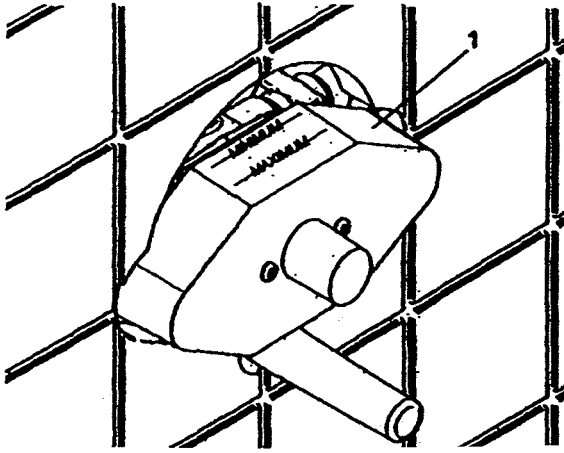

Fig. 4
Position valve with 1/2" shower outlet marked "S" up and the 1/2" tub outlet marked "T" down. Finished wall must be within dimensions shown on finished wall template (1) (see Fig. 4 & 5).
Finished wall template (1) must remain intact for finished wall surface measurements and as a template for plastering and/or tilling (see Fig. 4).